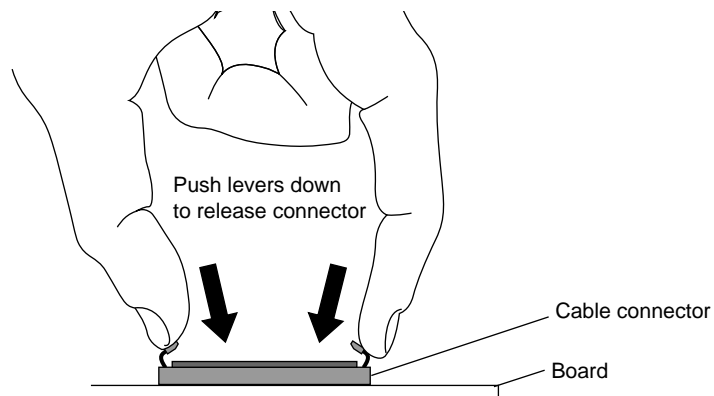

Figure 5-24 Removing the Option Board Flex Cables From the IMPACT Graphics Board
- Press down on the levers to release the connector. Then grasp the sides of the connector and pull up. See Figure 5-24.